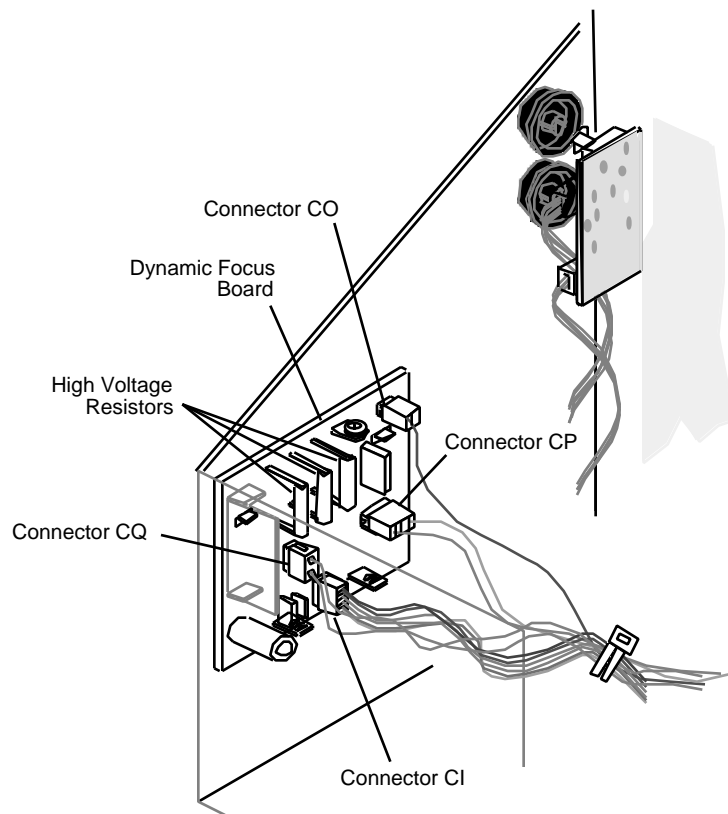

FIGURE 13
3. Reconnect the following connectors to the dynamic focus board (Figure 13) :